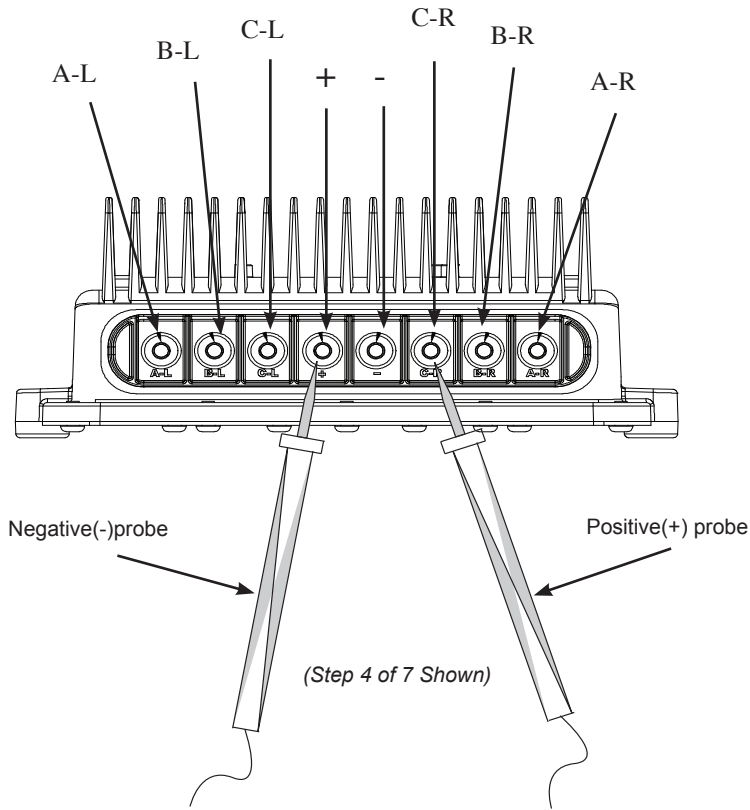

Figure 3. Deck Controller
3	Label all (8) deck controller connection points (per Figure 3, page 13) on the edge of the deck controller housing so they are easily viewed for correct re-connection.
6	Measure deck controller resistance (Ω): Reference Figure 3, page 13. (A) Place the negative (-) probe of a digital multimeter on the positive (+) battery terminal of the deck controller. (B) Place the positive (+) probe of the digital multimeter on deck controller terminals AR, then BR, then CR. Resistance for each should read between 270k (Ω) and 330k(Ω). If resistance is above or below the specified range the deck controller will need to be replaced. Repeat process for deck controller terminals AL, BL and CL.